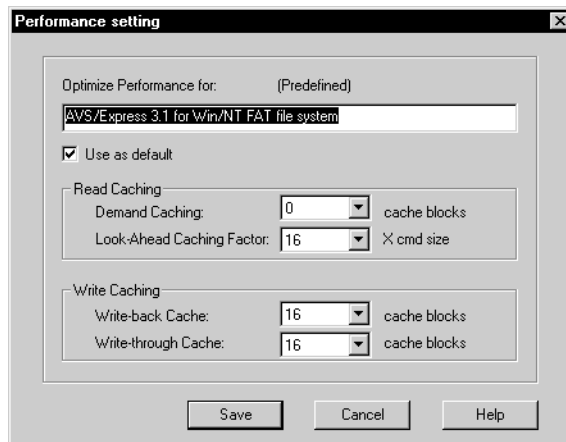

Figure 10-2. Performance Setting Dialog Box
- 6 Click the **Edit** button. The Performance Setting dialog box appears, as shown in Figure 10-2.